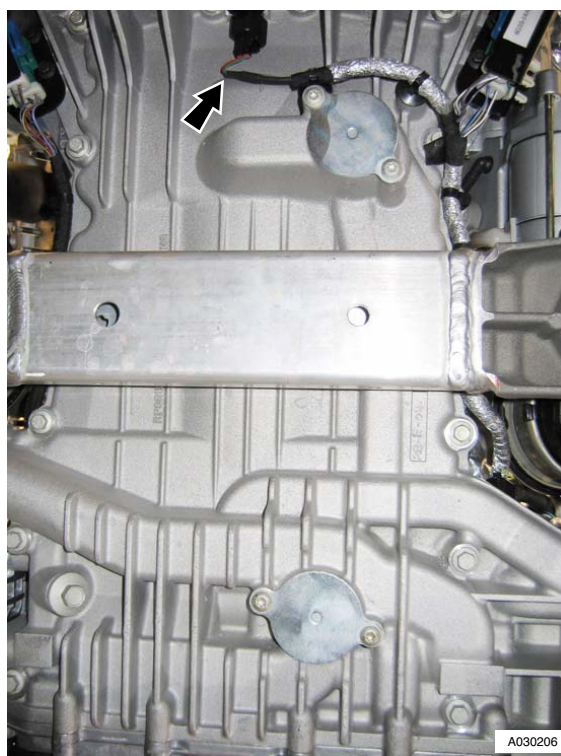

Figure 3
4. Disconnect multiplug from crankshaft timing sensor (refer to Figure 3).